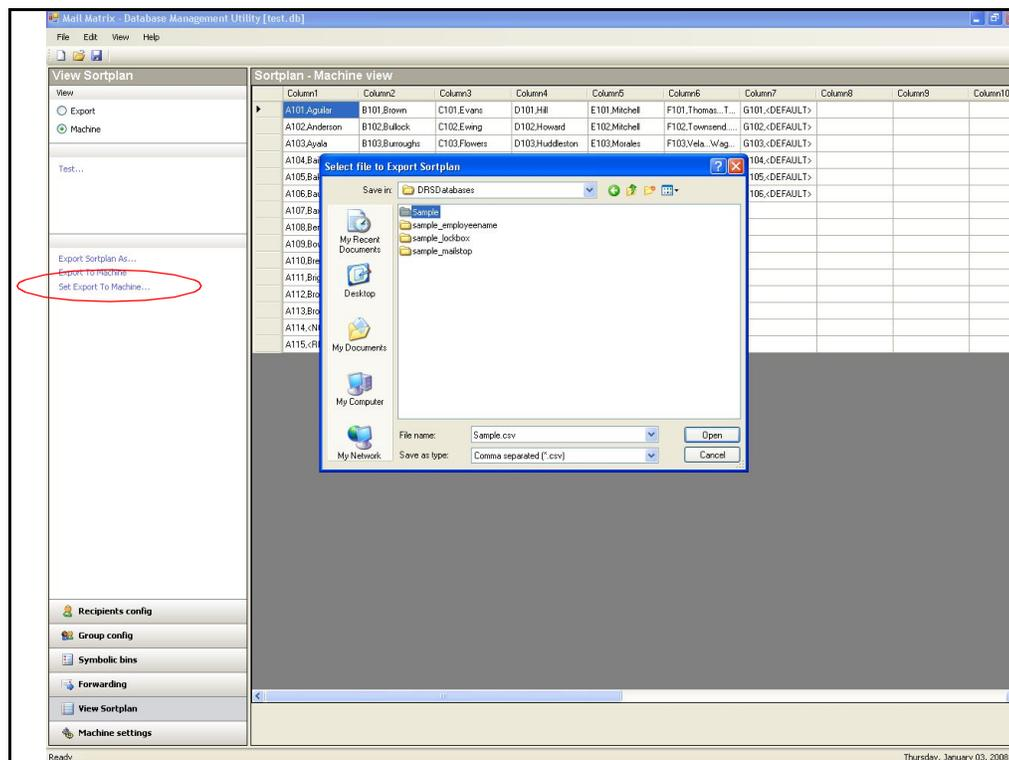

Figure 187: Set the location for the database export
- a. Click **View Sortplan** to access the export functions (Figure 187).
- d. Enter a name for the new database in the **File name** field of the browser window (Figure 187) and click **Open**.